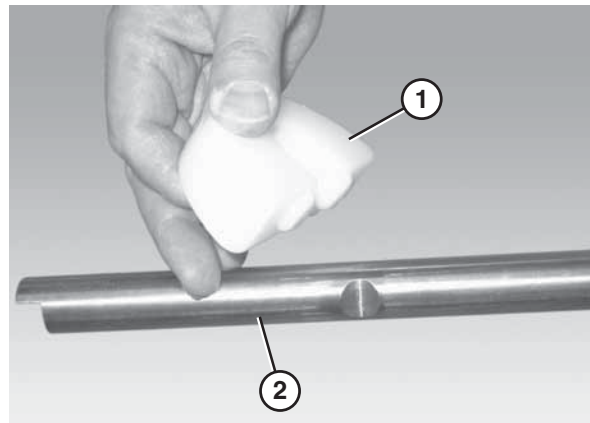

Figure 50
1. Attach the chain return shoes (**Figure 50, item 1**) to the return shaft (**Figure 50, item 2**).